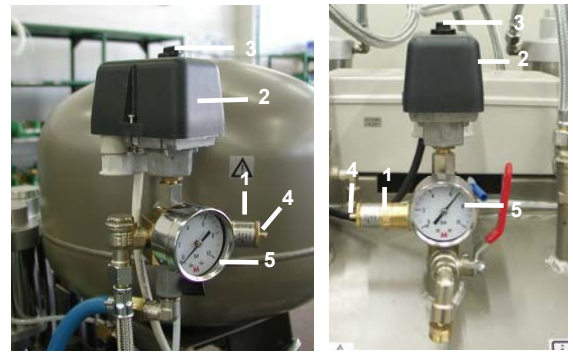
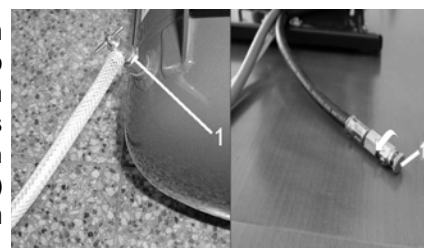
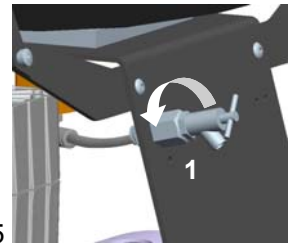

Fig.13
Fig.14
Fig.15
(Fig.13)
Compressors (Fig.14, Fig.15)
If the compressor will not be used for a prolonged time period, drain any condensate from the air tank. Then turn on the compressor for 10 minutes, keeping the drain valve open (1) (Fig.14, Fig.15). Switch off the compressor by switch (3) at pressure switch (2) (Fig.13), close the drain valve and disconnect the appliance from the mains.
- Release air pressure in the pressure tank by opening the drain valve (1) (Fig.14, Fig.15).